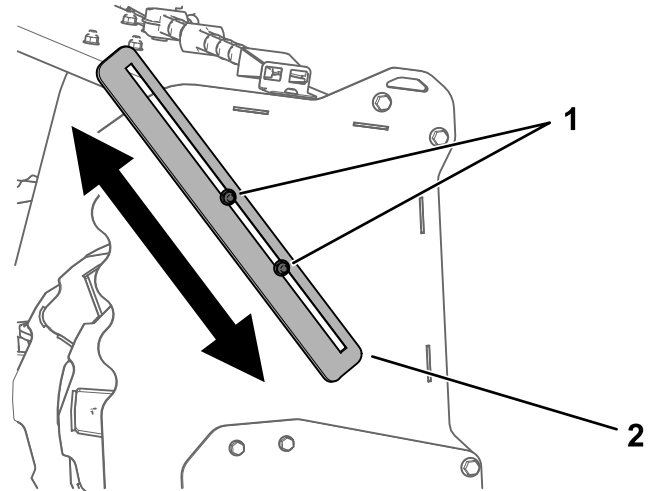

Figure 23
3. Loosen the 2 nuts on each drift breaker and adjust the breaker as necessary (Figure 23).